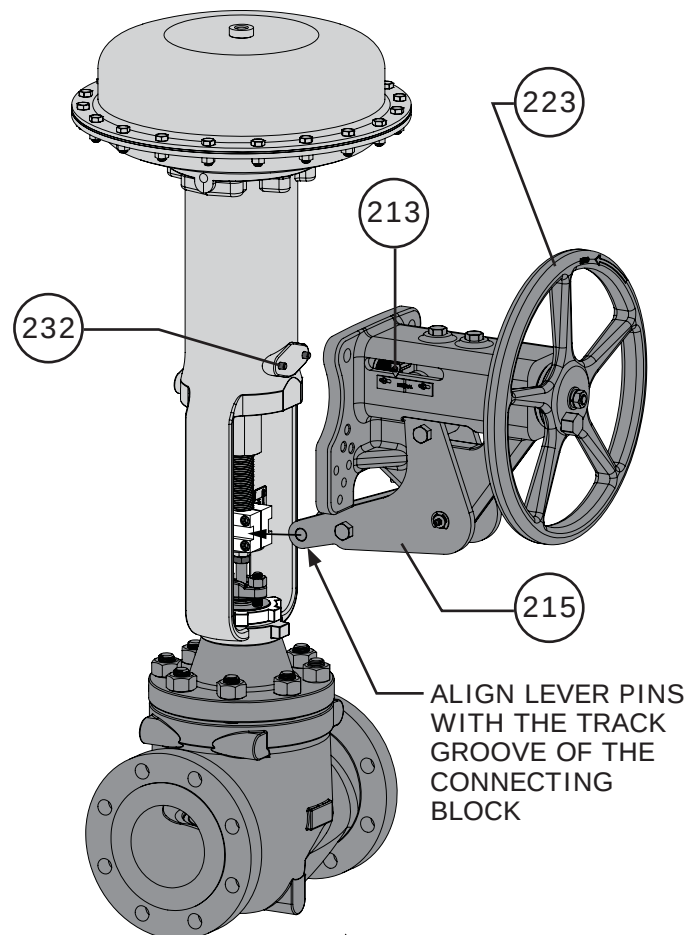

Figure 42 Side-Mounted Handwheel Mounting Positioning
- 6 Using an appropriately rated lifting device (such as a crane) or a second person as help, hoist the side-mounted handwheel assembly into position. Gently slide the pins of the levers (Keys 214 & 215) into the grooves of the side-mounted handwheel connecting block (Key 230), the mounting plate of the side-mounted handwheel body should be kept parallel to the mounting pad of the actuator. The dowel pins (Key 232) will act as locator pins to properly position the side-mounted handwheel onto the actuator. The levers should move as little as possible while the dowel pins are positioned into the closest mounting holes of the side-mounted handwheel body. Refer to Figures 42 & 43.